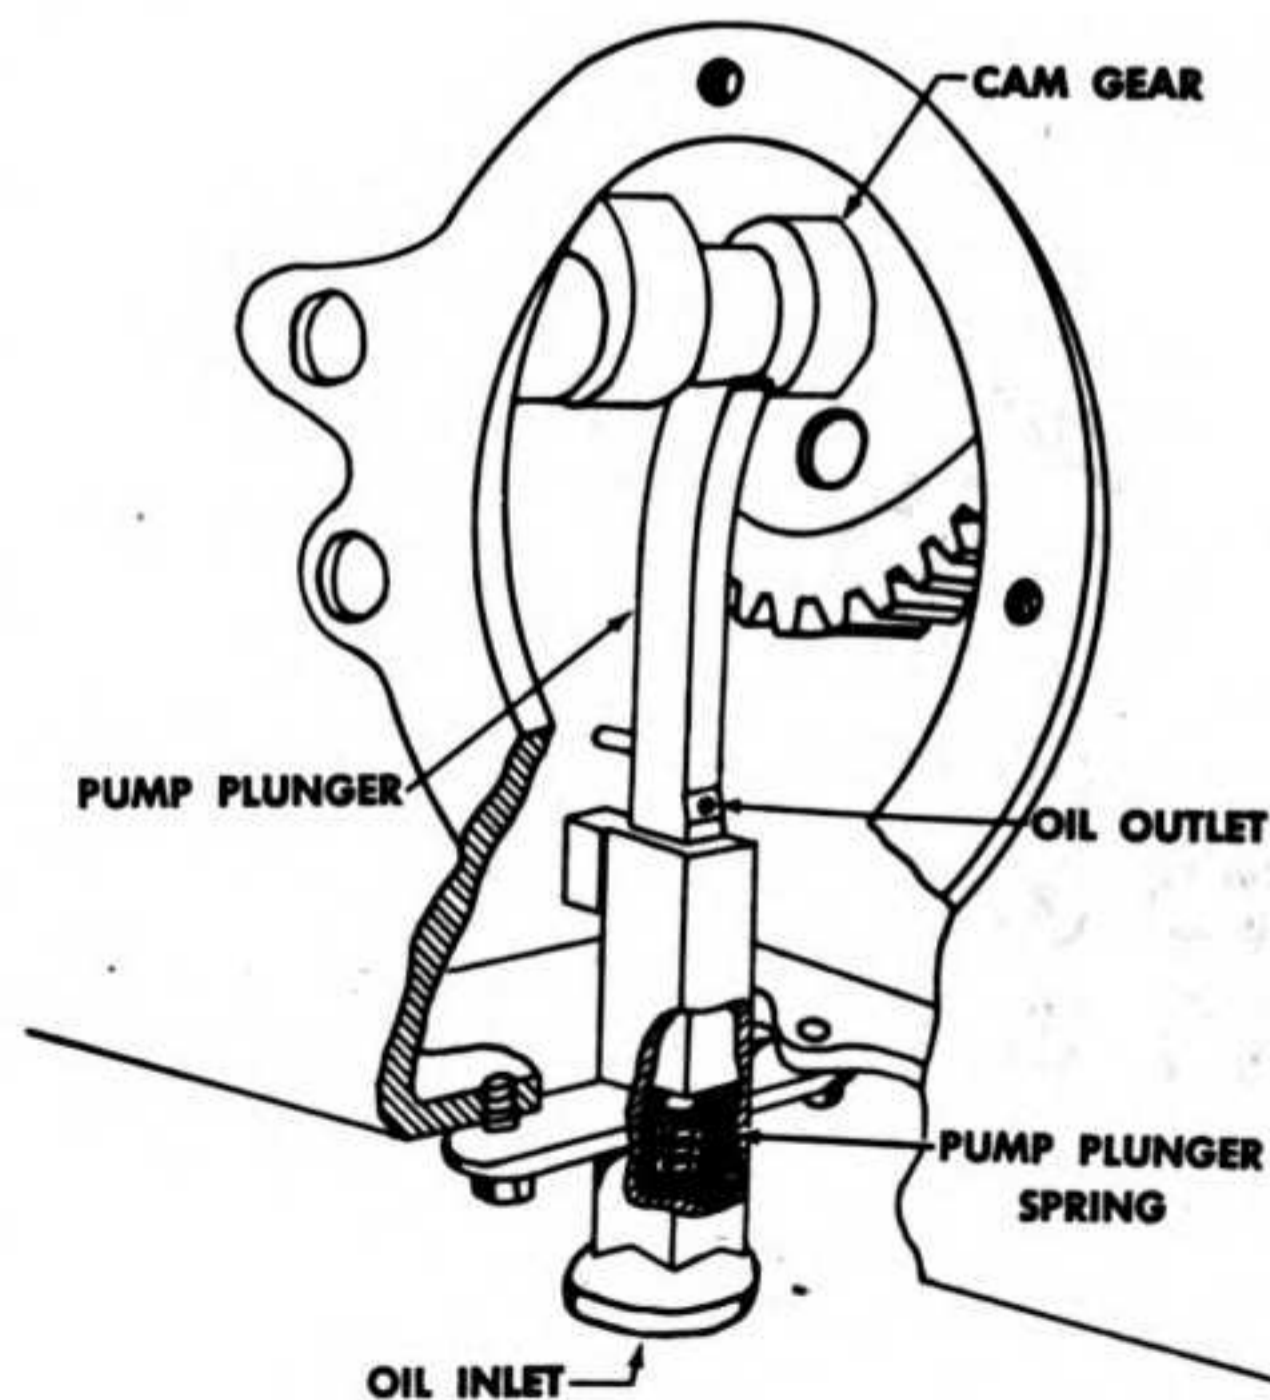

Figure 35—Oil Pump Installation
j. Remove the oil pump. NOTE: The oil pump is a plunger type, operating from an eccentric on the cam gear. It forces a stream of oil over all moving parts when the engine is in operation. (See figure 35.)
(1) Remove the two capscrews and lockwashers that secure the oil pump to the cylinder assembly.
(2) Inspect pump operation, as follows:
f. Install the oil pump, making sure that the plunger is positioned as shown in figure 35. Secure pump to